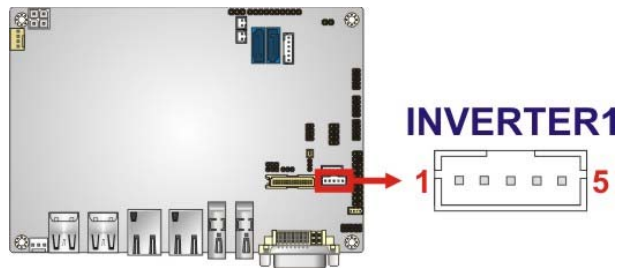

Figure 3-11: LVDS Backlight Inverter Connector
- CN Location:** See **Figure 3-11**